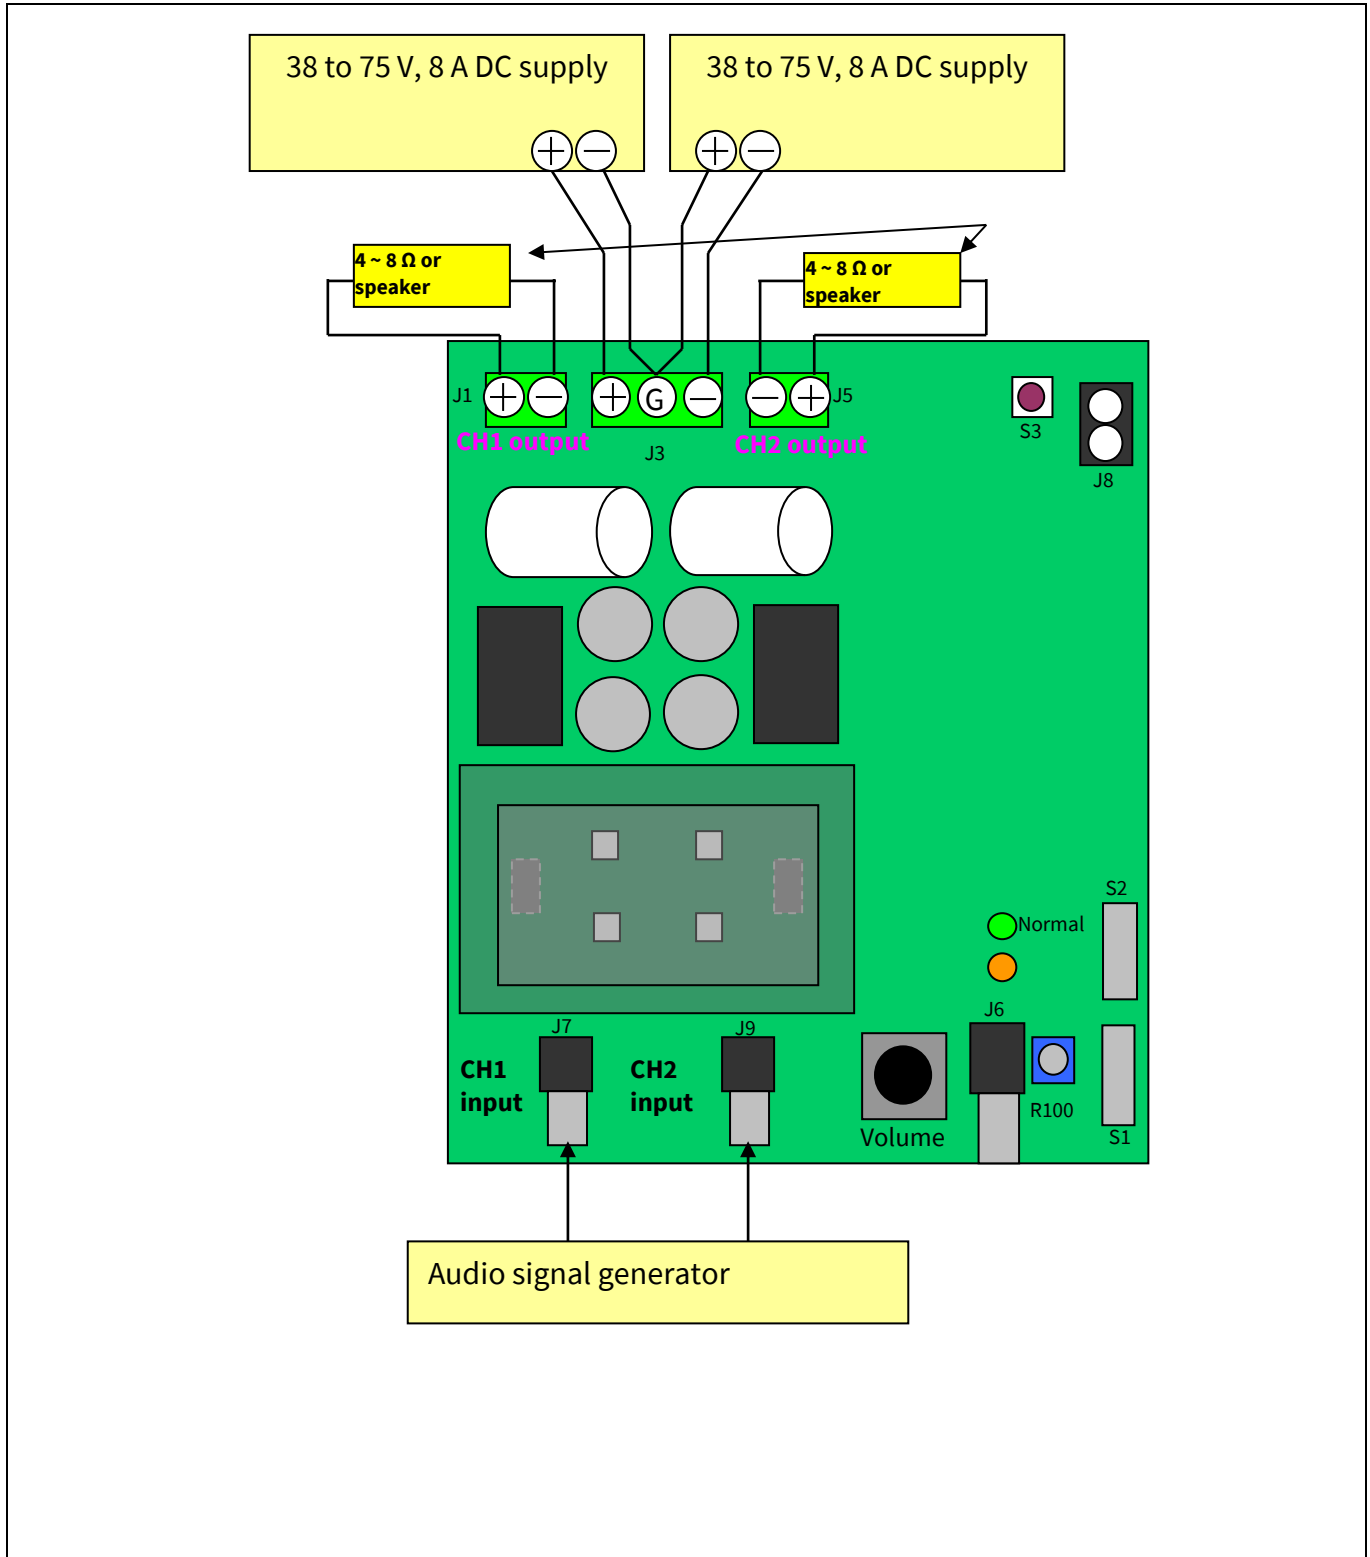
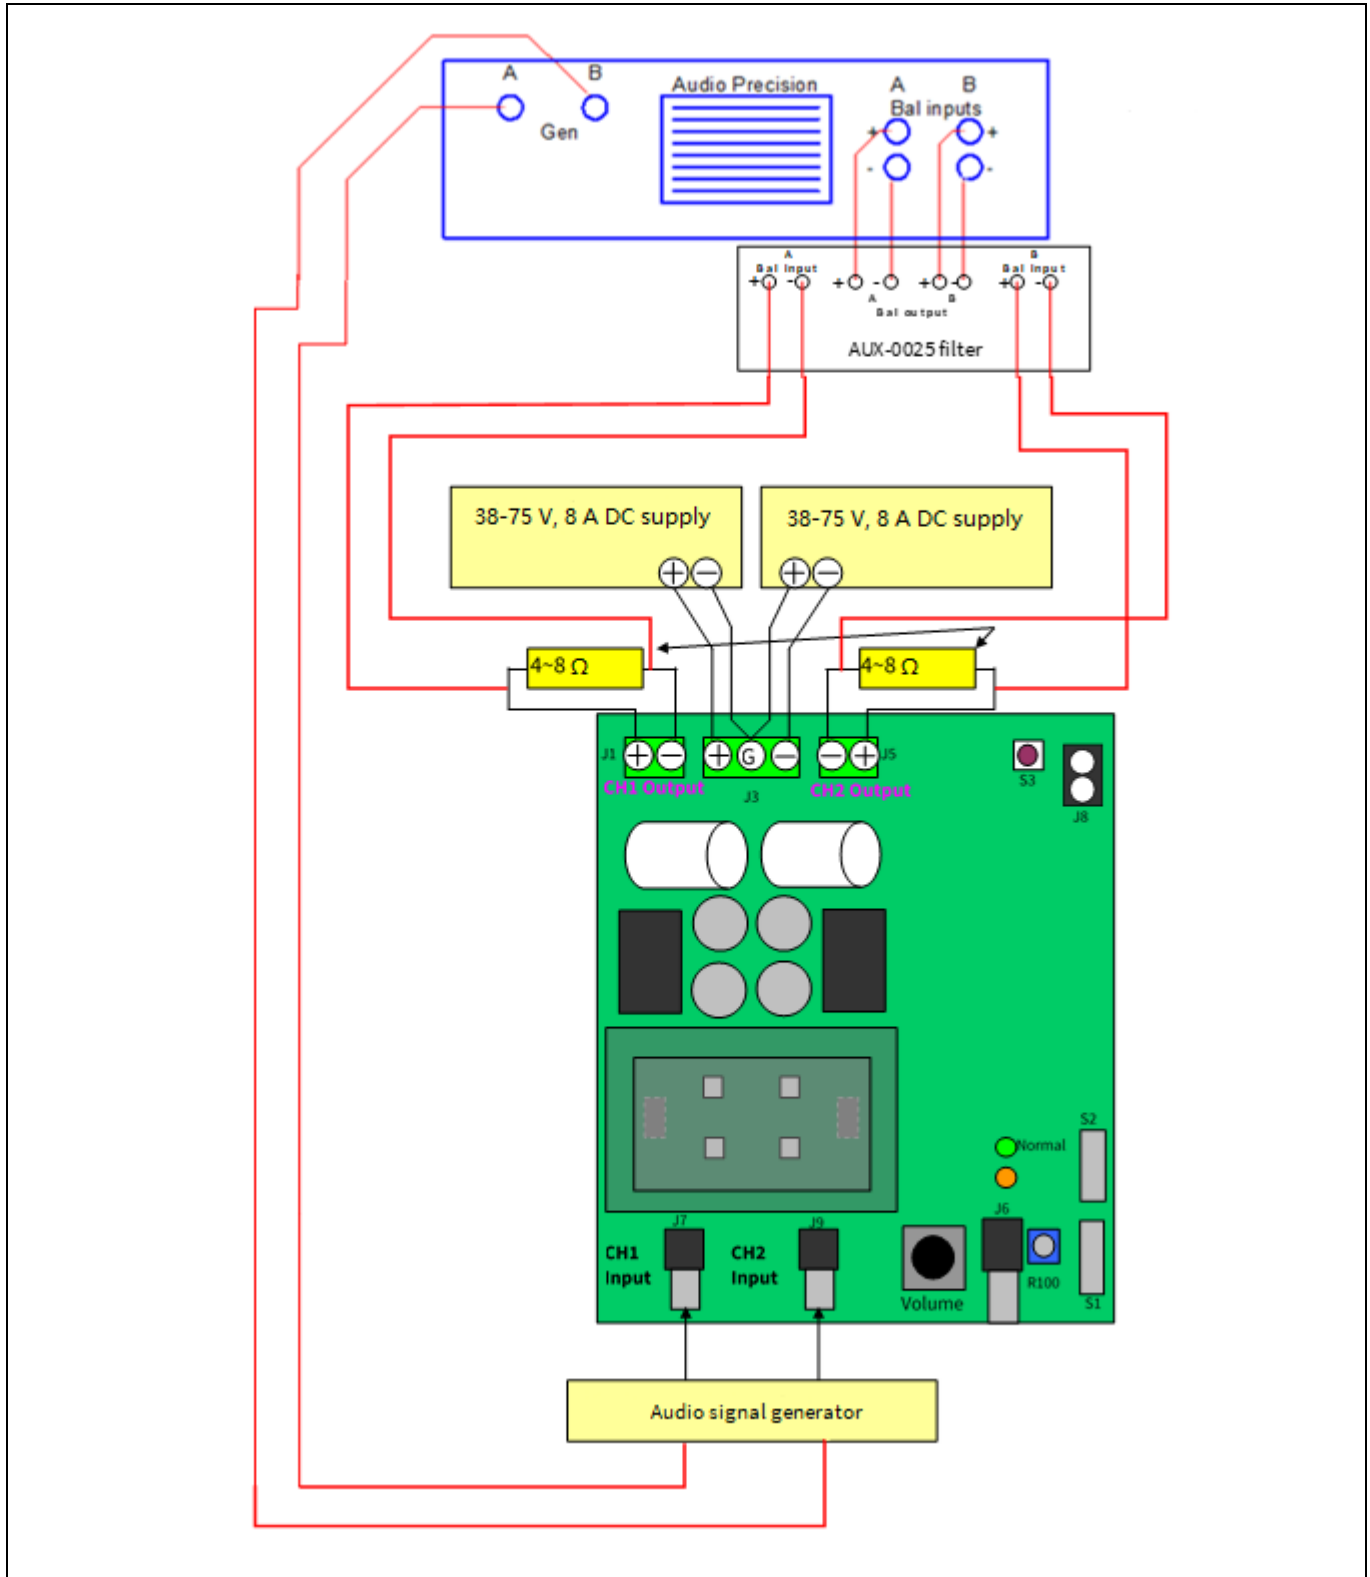

Figure 3 Typical connections
Figure 4 Audio analyzer connection
1. Connect 4 or 8  $\Omega$  250 W dummy loads to output connectors (J1 and J5 as shown in Figure 3) and parallel it with input of the Audio Precision (AP) analyzer.
2. Connect the Audio Signal Generator (ASG) to J7 and J9 for CH1 and CH2 respectively (AP).
7. Connect the dual power supply to J3, as shown on Figure 3 or Figure 4.